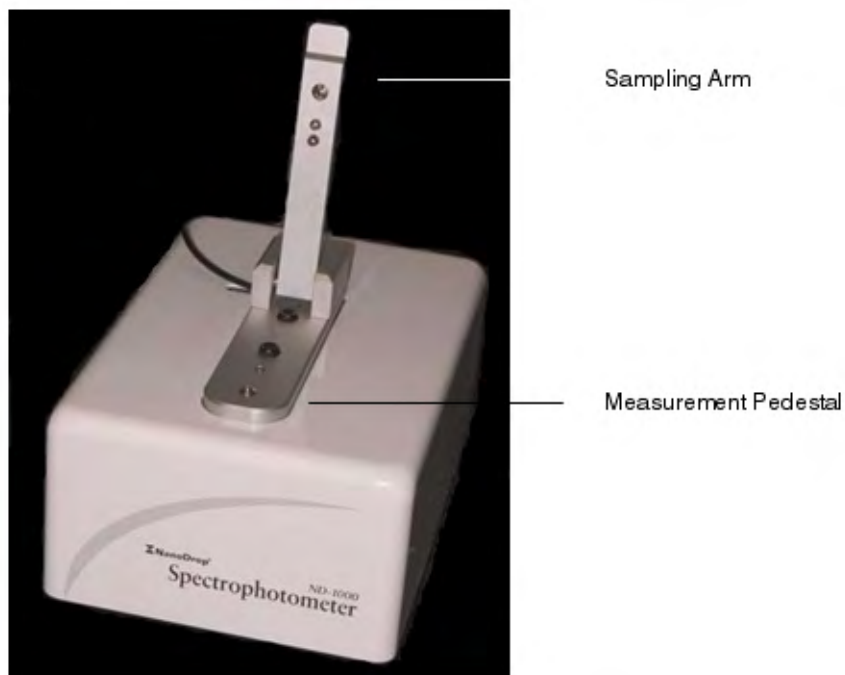

Figure 29 Components of the NanoDrop® ND-1000 Spectrophotometer.
4. Lift the sampling arm and load 2  $\mu\text{L}$  of Nuclease-free Water onto the lower measurement pedestal and lower the sampling arm (see Figure 29 on page 191).